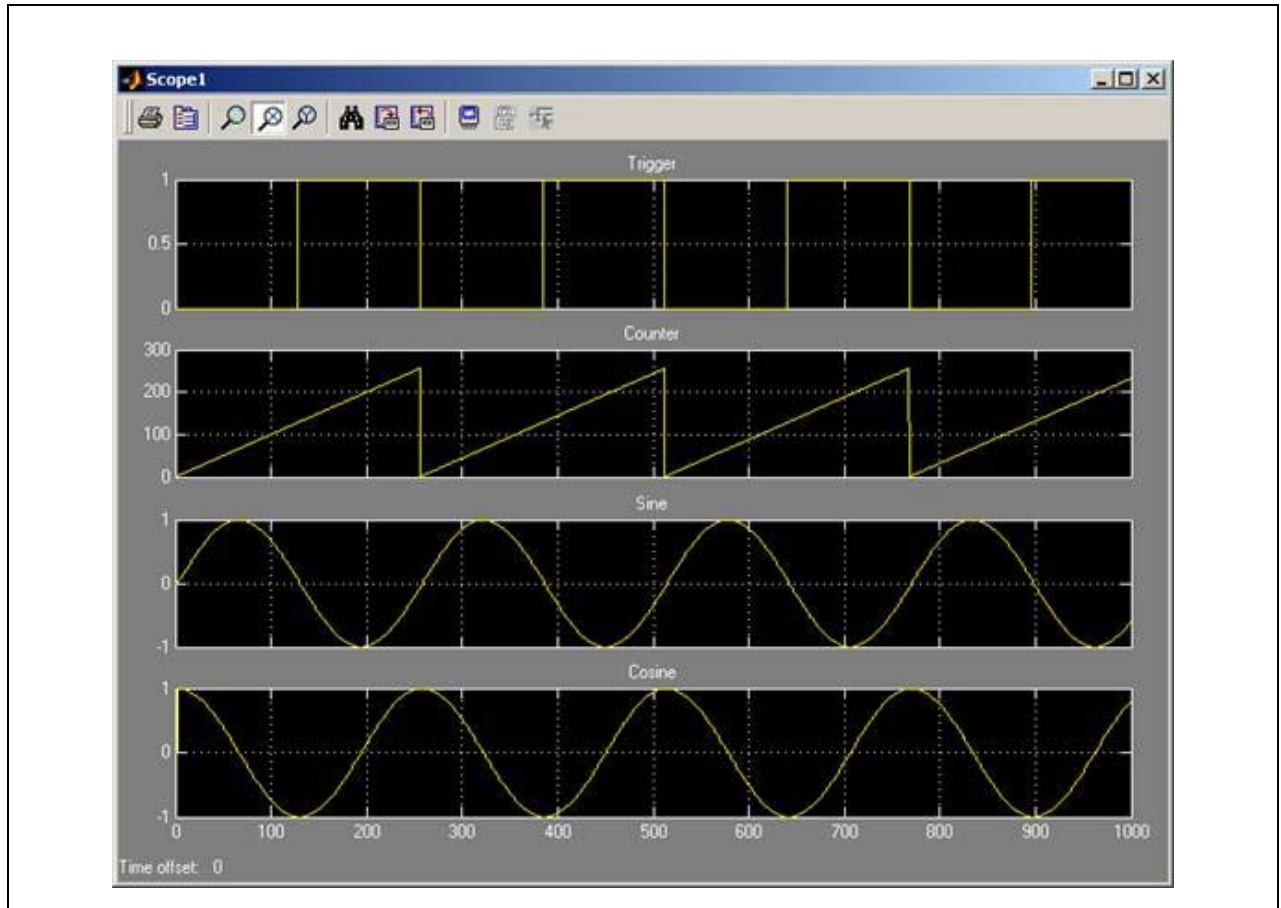

Figure 136: Scope1 Displayed Waveforms
4. Simulate the model by clicking on the 'Start simulation' icon shown right. At this point, without modifying the model, the plot shown in Figure 136 on page 210 should appear.